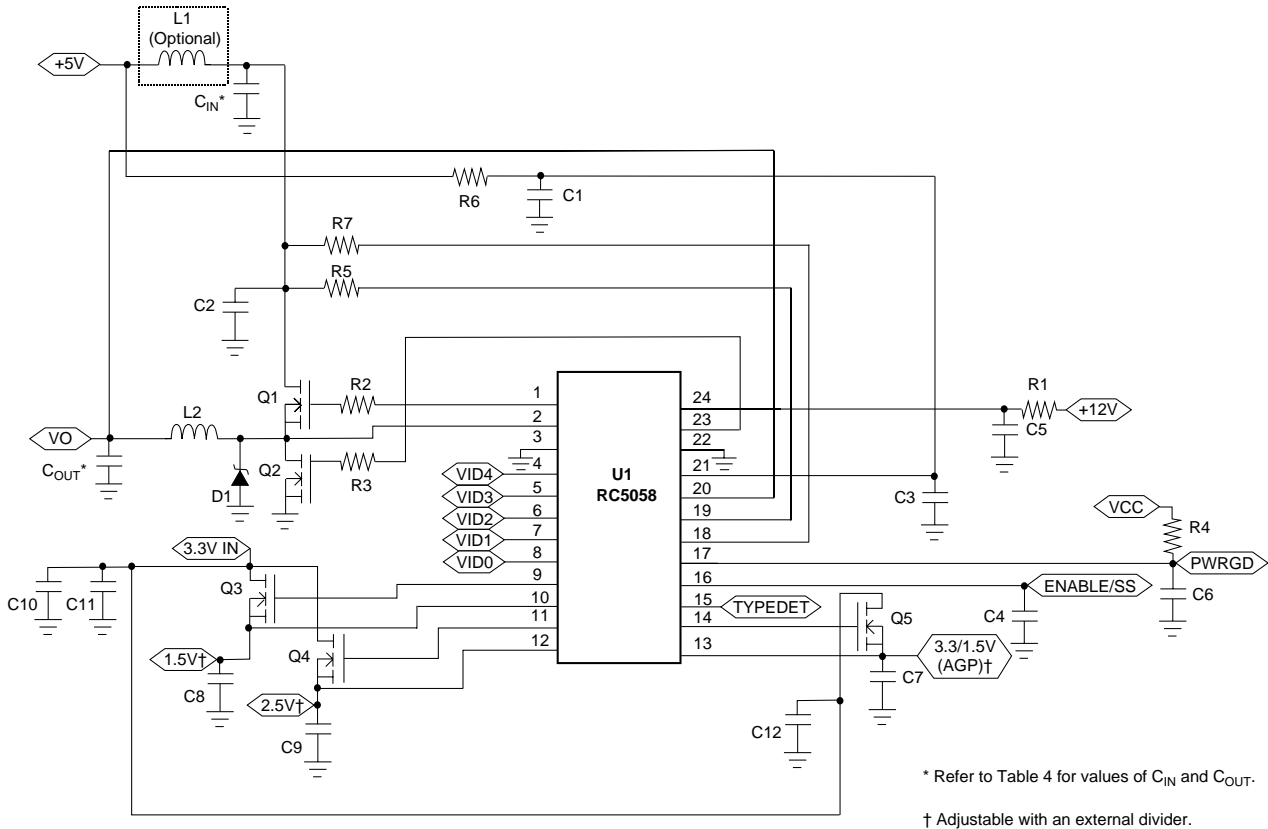

Figure 1. Application Circuit for Katmai/Camino/BX/ZX Motherboards
**Electrical Specifications** (Continued)(VCCA = 5V, VCCP = 12V, VOUT = 2.0V, and TA = +25°C using circuit in Figure 1 unless otherwise noted.)
( $V_{CCA} = 5V$ ,  $V_{CCP} = 12V$ , and  $T_A = +25^{\circ}C$  using circuits in Figure 1, unless otherwise noted.)